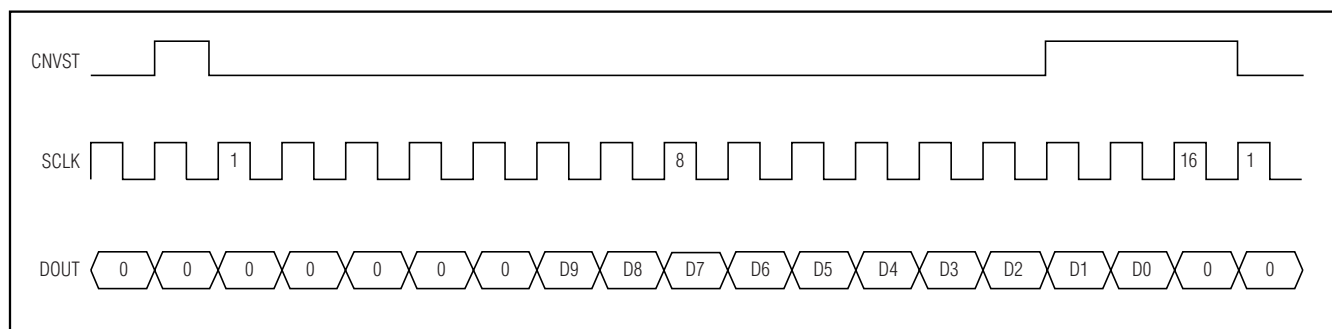

Figure 17. DSP Interface—Continuous Conversion
The MAX1334/MAX1335 can also be connected to the TMS320C54\_ by using the data-transmit (DX) pin to drive CNVST and the transmit clock (CLKX) generated internally to drive SCLK. A pullup resistor is required on the CNVST signal to keep it high when DX goes high impedance and write (0001)h to the data-transmit register (DXR) continuously for continuous conversions. The power-down modes can be entered by writing (00FF)h to the DXR (see Figures 17 and 18).
versions, idle CNVST high and pulse it low for the entire conversion. Configure the ADSP21\_ \_ \_ STCTL and SRCTL registers for late framing (LAFR = 1) and for an active-low frame (LTFS = 1, LRFS = 1) signal. This is also the best way to enter the power-down modes by setting the word length to 8 bits (SLEN = 0111). Connect the DVDD pin to the ADSP21\_ \_ \_ supply voltage (see Figures 17 and 18).